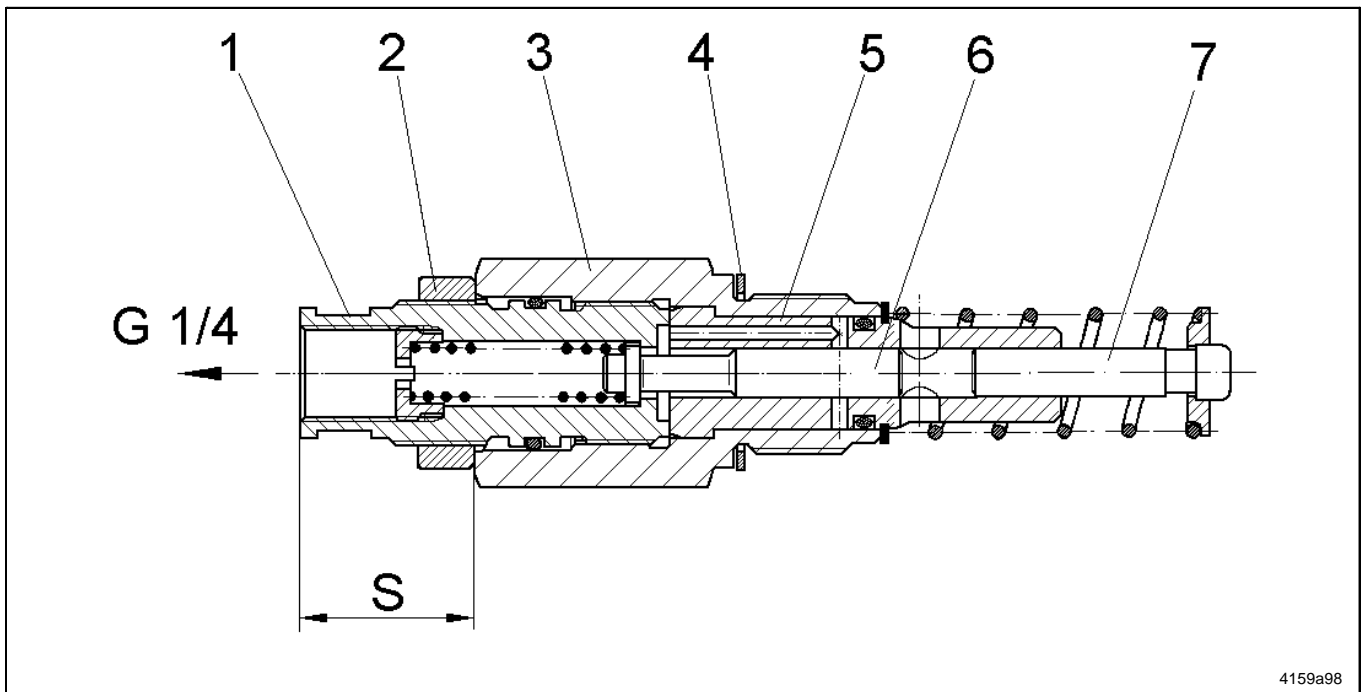
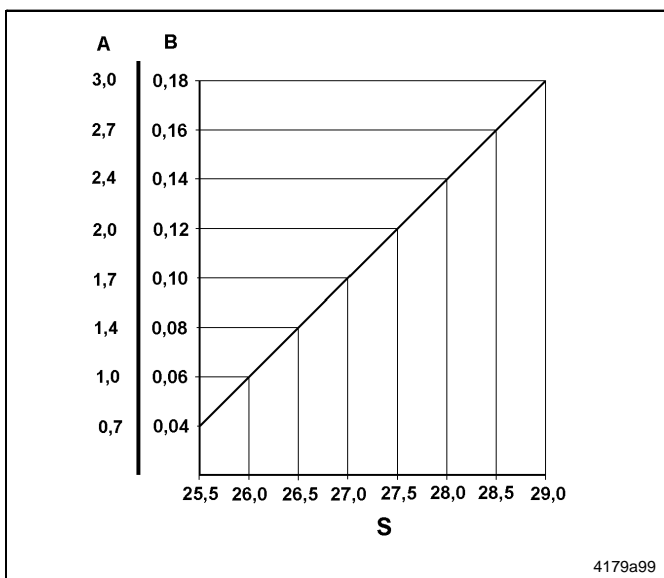

Fig. 14 Sectional view: adjustable element
Fig. 15 Supply diagram
- Loosen counter nut (pos. 21)) while holding in position pump element body (pos. 3) by means of a second wrench.
- Change the position of the adjusting spindle (pos. 1) by means of a wrench.
- The dimension "S" (see Fig. 14) for the desired lubricant output can be ascertained by using the delivery diagram shown in Fig. 15.
1) All indications of positions refer to Fig. 14.
- Dimension "S" must be adjusted to the desired value in accordance with the delivery diagramm (Fig. 15, page 15).